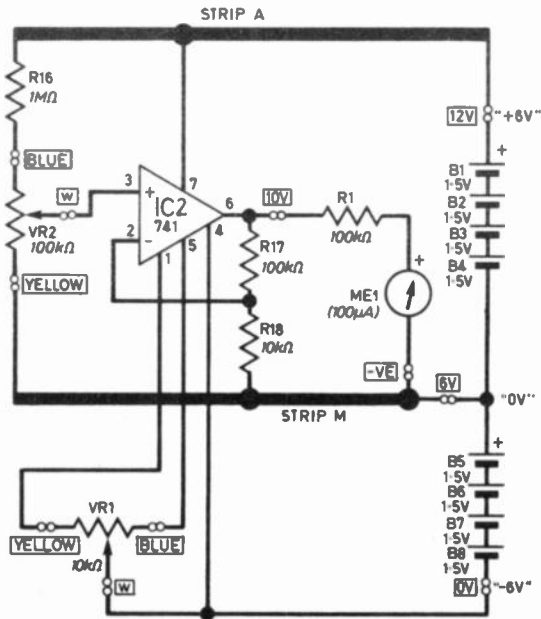

Fig. 7.16. The circuit of a non-inverting op-amp with fixed gain and offset null control.
Fig. 7.16 shows feedback being taken from a potential divider (R17/R18), so
9. If pin 3 (Fig. 7.16) is taken to $-0.1V$, what will be the output at pin 6?
10. In Fig. 7.16 if $R16=1M\Omega$, $R17=6.8k\Omega$, and the voltage at pin 3 = $0.01V$, what will be the output at pin 6?